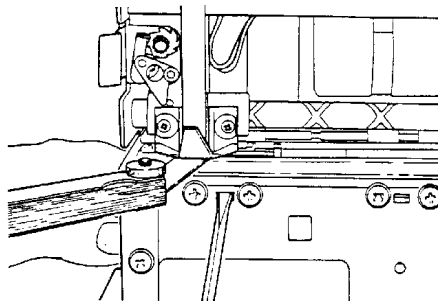

Figure 19. Adjusting Printbar
- g). Check the printhead to printbar gap. (See Figure 19).